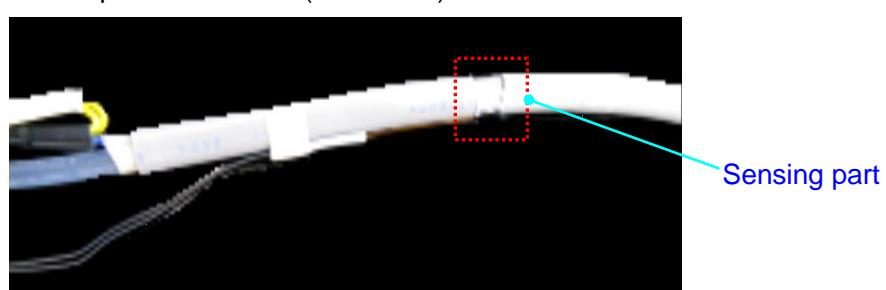

Fig.4-3-4-3 Temperature sensor for tube heater unit
(4) Replace with the new tube heater units. (Refer to Fig. 4-3-4-2, 4-3-4-3.)